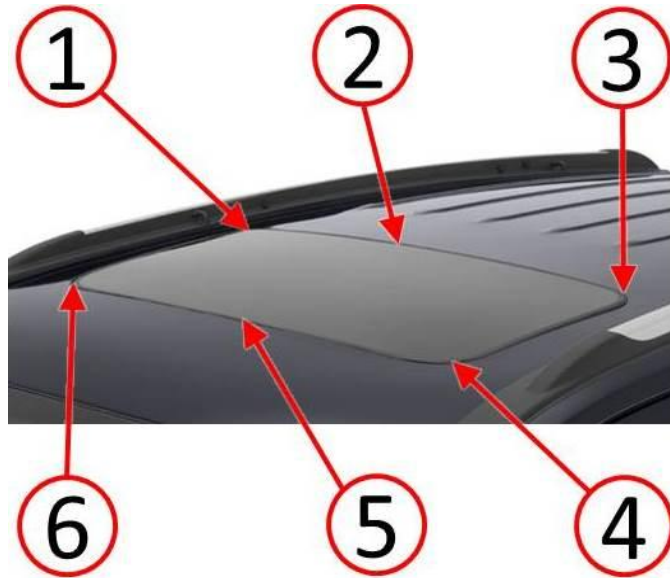

Fig. 12 Sunroof Glass Panel Measurement Points
18. Adjust the rear corners (1) and (3) so that the glass is flush 0.0 mm (0.0 in.) to the roof. Measure the lowest point along the rear edge (2), if it exceeds 1.0 mm (0.04 in.) underflush, raise up rear corners (1) and (3) evenly until the low point along the rear edge (2) is 1.0 mm (0.04 in.) underflush. Corners (1) and (3) cannot exceed 2.0 (0.08 in.) overflush (Fig. 12).
19. Adjust the front corners (4) and (6) to flush or underflush. Measure the lowest point along the front edge (5), if it exceeds 3.5 mm (0.14 in.) underflush, raise up front corners (4) and (6) evenly until the low point along the front edge (5) does not exceed 2.5 mm (0.10 in.) underflush (Fig. 12).